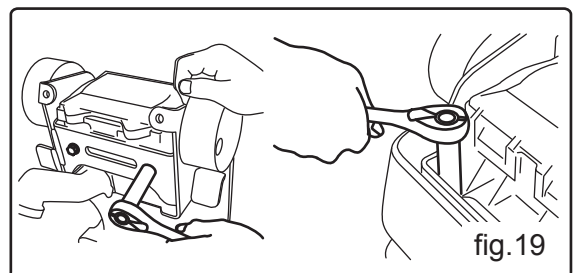

fig.19
- Remove the handle assembly by unscrewing 4 pcs bolts (4) which fixing it.
- Remove the air cleaner assembly (33) by unscrewing 2 pcs bolts (40) and 2 pcs bolts (39), which is fixing it. (fig.19)